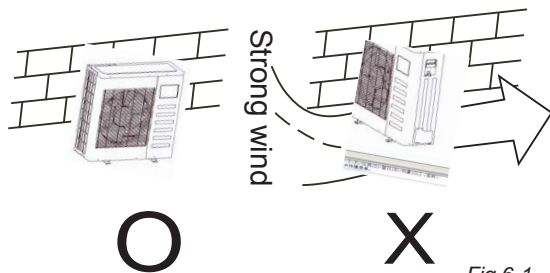

Fig.6-1
- In the case that the installation place is exposed to strong wind such as a seaside, make sure the fan operating properly by putting the unit lengthwise along the wall or using a dust or shield. (Refer to Fig.6-1)